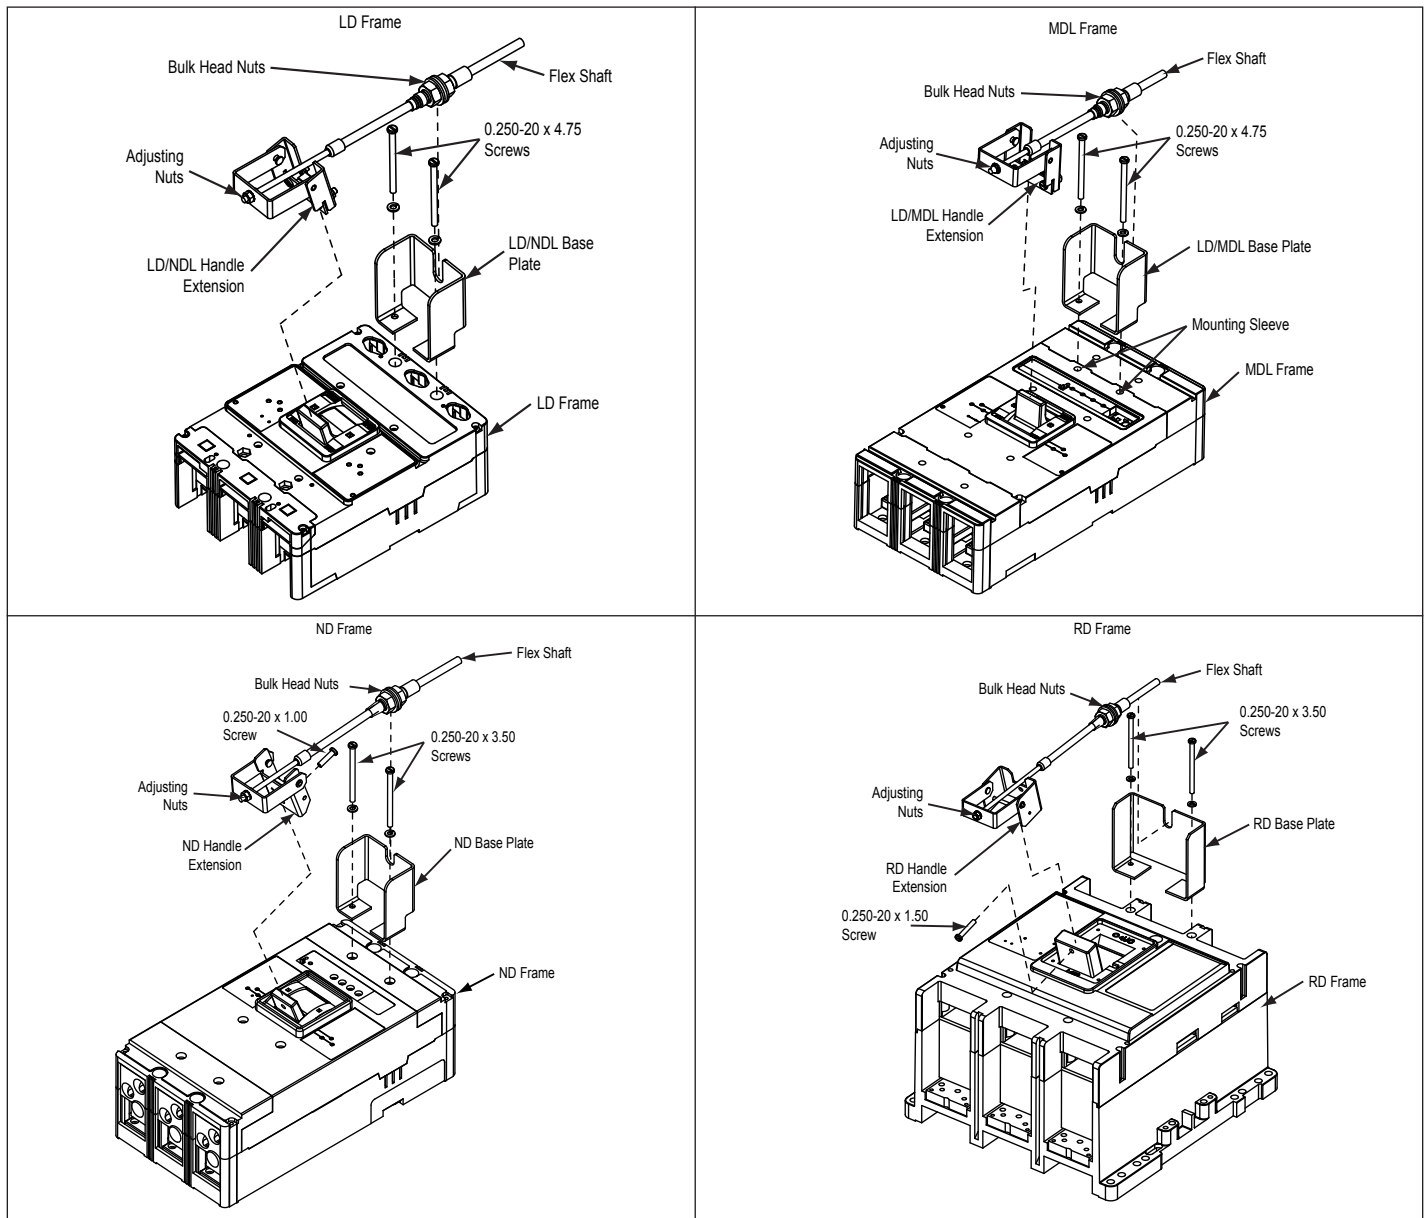
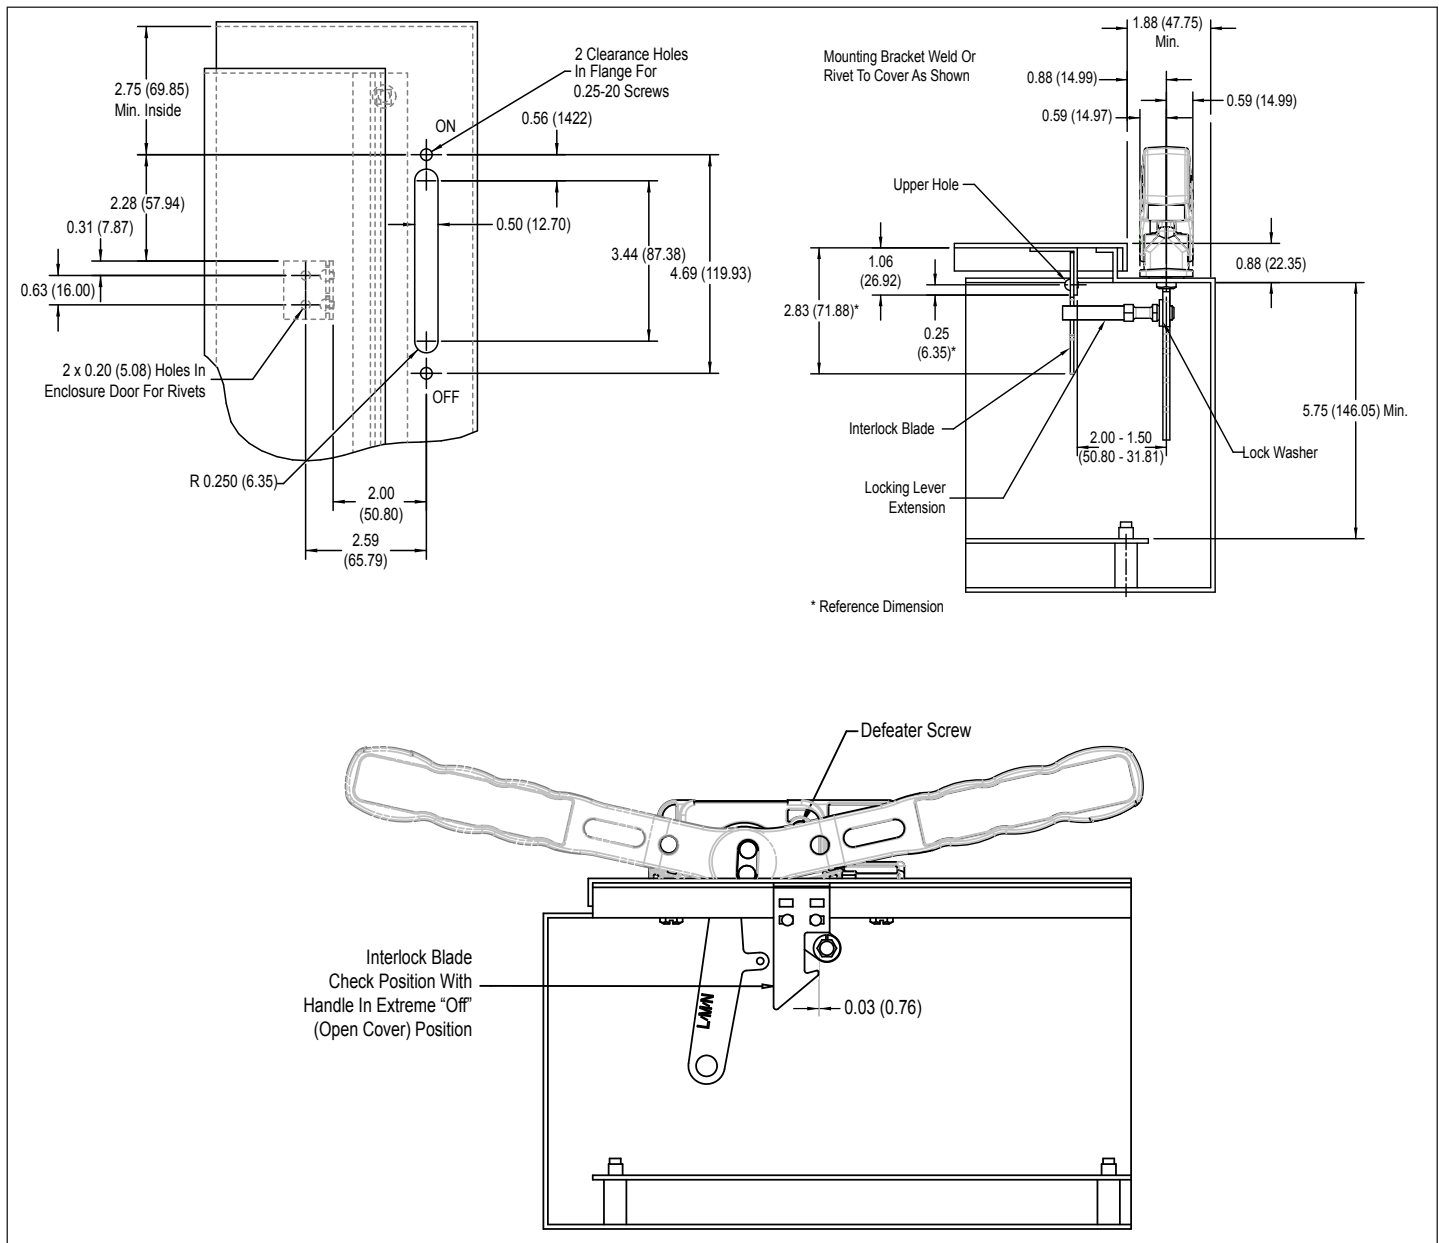

Figure 2. LD, MDL, ND, and RD Mechanism Assemblies.
Figure 3. Flange Drilling Plans for Handle and Interlock Blade Mounting Dimensions.
LD: Attach the base plate and load end of the breaker to the enclosure using the 0.250-20 x 4.750" screws and lock washers enclosed (see Figure 2 for illustration).
M: Attach the load end of the breaker to the enclosure using hardware from the hardware kit. Attach the base plate to the load end cover on the (M) type breaker. The load end cover screws are replaced with the two 0.190-32 x 2.000" screws and lock washers enclosed (not shown in Figure 2).
MDL: Attach the load end of the breaker to the enclosure using hardware from the hardware kit. Attach the base plate to the load end cover of the breaker. The load end cover screws are replaced with the two 0.164-32 x 2.250" screws, lock washers, and mounting sleeves enclosed (see Figure 2 for illustration).
ND: Attach the load end of the breaker to the enclosure using hardware from the hardware kit. Attach the base plate to the circuit breaker using the 0.250-20 x 3.500" screws and lock washers enclosed in the parts kit at the load end of the breaker after removing the two load cover screws located between the trip unit and the two load end mounting holes (see Figure 2 for illustration).
RD: Attach the load end of the breaker to the enclosure using the hardware from the hardware kit. Attach the base plate to the circuit breaker using the 0.250-20 x 3.750" screws and lock washers enclosed in the parts kit at the load end of the breaker (see Figure 2 for illustration).
6. Place the outer handle mechanism in the full "ON" position and the circuit breaker in the "ON" position. You must release the cover interlock to move handle to "ON" position. Place the handle extension assembly onto the breaker handle and secure as shown on Figure 2.
8. Actuate the outer handle positions ("ON"; "OFF"; and "RESET"). If minor adjustments are necessary, refer to the following adjustment checklist and Figure 2. Install the appropriate door hardware (supplied); as referenced on Figure 3.